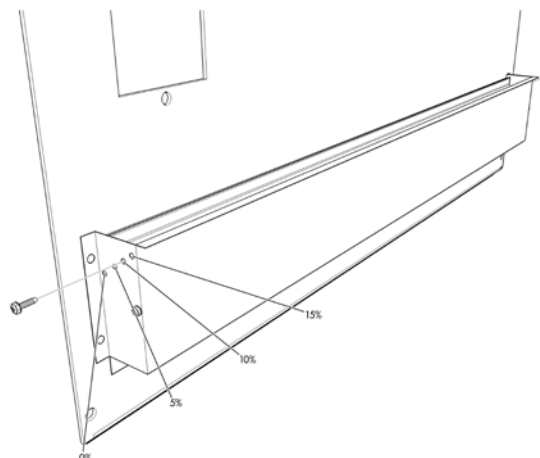

Figure 4. Fresh Air Hood Damper, MAH1024A-MAH1072A
3. Refer to Figure 4. Attach the bottom support bracket to the wall using appropriate 3/8" diameter hardware.